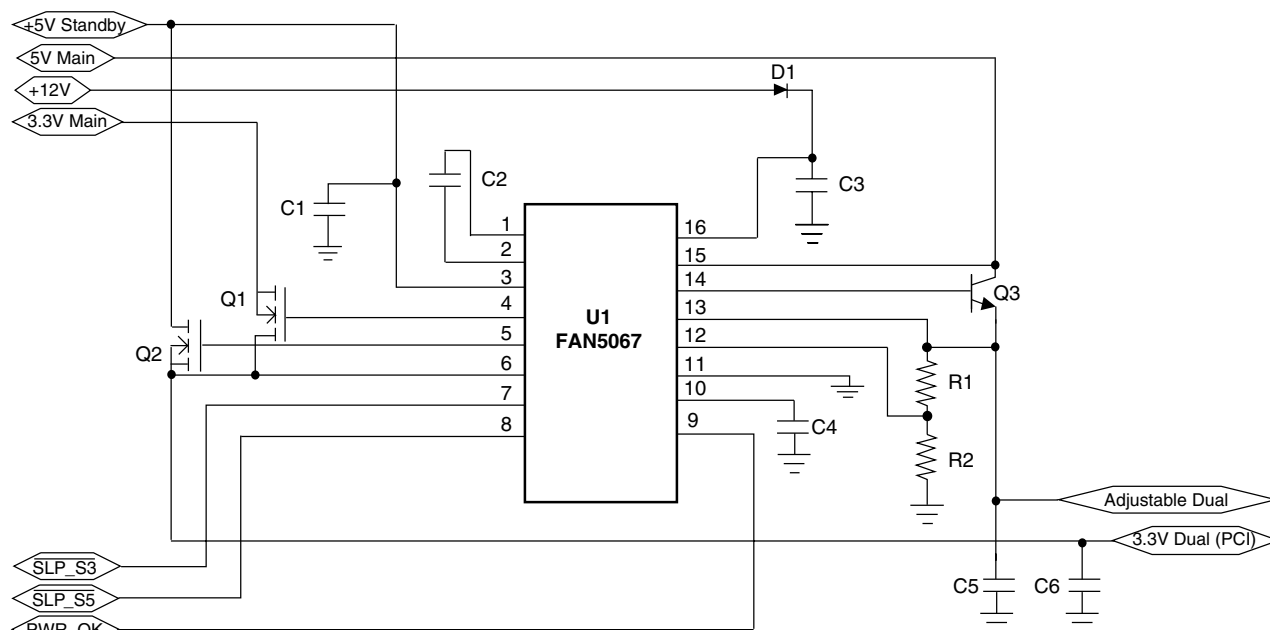
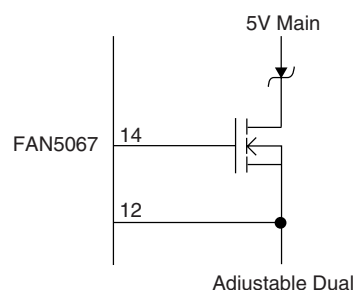

Figure 4. ACPI Selector
Figure 9. Adjustable Dual with MOSFET
($V_{+5VSTBY} = V_{+5VMAIN} = 5V$, $V_{+3.3V} = 3.3V$, $V_{+12V} = 12V$ and $T_A = +25^{\circ}C$ using circuit in Figure 4, unless otherwise noted.)
3.3V dual can be generated by two MOSFETs, one from +3.3V main, the other from +5V standby, as shown in Figure 4. When main power is present, the MOSFET Q1 is turned on as a switch, so that input and output are connected together. When main power is absent, the MOSFET Q2 is controlled by the FAN5067 as a linear regulator, generating a regulated 3.3V from +5V standby. The MOSFET Q1 must be connected as shown in the figures, to avoid back-feed.
Adjustable dual is generated by one external NPN bipolar acting as a linear regulator from +5V main, and one linear regulator internal to the FAN5067 from +5V standby, as shown in Figure 4, and in the block diagram on the front page. When main power is present, the NPN Q3 linear regulates, and when main power is absent, the internal linear regulator is on. Q3 cannot be substituted with a MOSFET. If used in one direction, the MOSFET's body diode would permit back-feed; if used in the other direction, it would short-circuit the linear regulator action.
The output voltage of the Adjustable Dual is set with two resistors as shown in Figure 4, according to the equation.
In main power operation, the FAN5067 is run from the +12V main supply. This supply also provides voltage to the various MOSFET gates. However, during standby, this supply is off. To provide power to the chip and the appropriate gates, the FAN5067 incorporates a free-running charge pump. As shown in Figure 4, and in the block diagram on the front page, a capacitor attached between pins 1 and 2 of the FAN5067 acts as a charge pump with internal diodes. The charge pump output is internally diode or'ed with the 12V input. The 12V input must have a series diode to prevent back-feeding the charge pump to the +12V main when in standby. The 12V input line needs a bypass capacitor for high-frequency noise rejection. If desired, the system may be operated without the 12V or the diode; however, the bypass capacitor must still be present.
Instead of the bipolar transistor shown in Figure 4 for Q3, the linear pass element for the adjustable dual, a MOSFET and schottky diode can be used as shown in Figure 9.